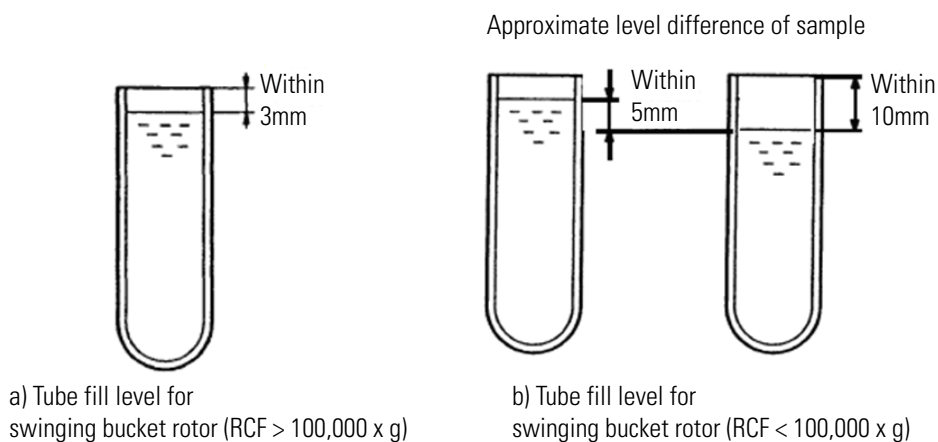

Figure 3-6 Sample fill levels for tubes in swinging bucket rotors
- a. Fill the tubes with sample of the same density up to a level within 3mm from the top of the tube when tubes are to be used over 100,000 x g. When the tubes are used under 100,000xg, you could use them with a sample level within 10 mm from the top. If the volume of the sample is small, it will be occur buckling of the tubes. (see Figure 3-6)